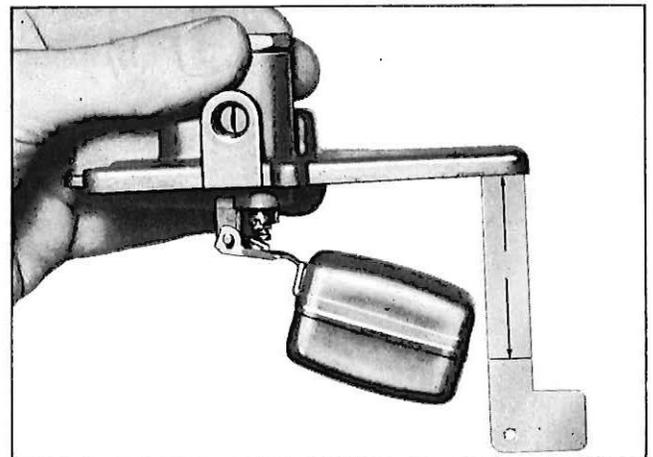

Fig. 9—Measuring Float Drop
6. Measure the distance between cover gasket surface and the float seam at free end of float (fig. 9). This FLOAT DROP dimension should be $2\frac{3}{8}$ ".